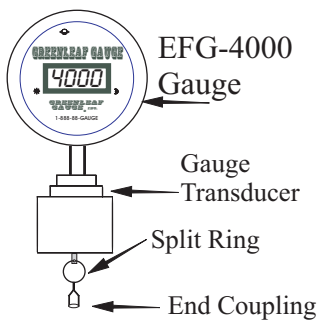

Figure 2
3. To connect the probe to the gauge, simply snap the free end of the chain on the top of the probe into the end coupling connected to the split ring located at the bottom of the transducer. (See **Figure 2**) Once this has been done, remove the clamp from the probe and screw the gauge head onto the pipe nipple. Care must be taken to ensure that you do not cross thread the gauge as you screw it onto the nipple. **When the tank is empty the probe should never touch the bottom of the tank. Adjust the bead chain so that the bottom of the probe is 2” to 3” above the bottom of the tank when empty. Refer to INSTALLER NOTICE attached to gauge before installation.**